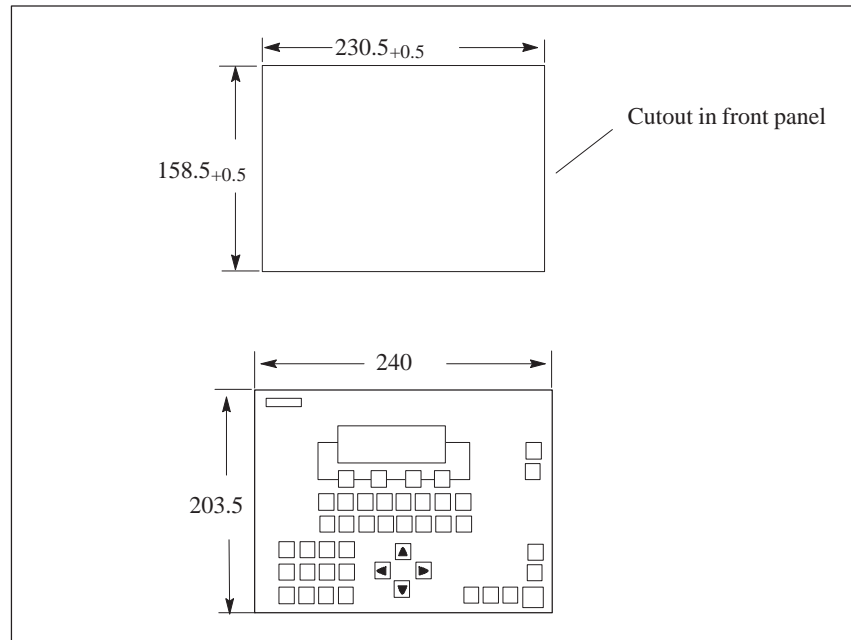

Figure 2-5 Dimension Drawings for Cutout in Control Panel (All Device Variants)
1. Make a cutout in the control panel dimensions 230.5 x 158.5 mm (same size for all device variants). See Figure 2-5.